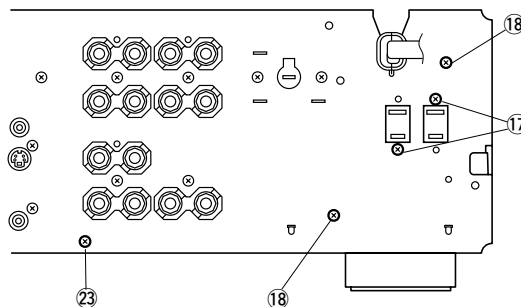

Fig. 7
- Remove the Input (4) P.C.B, Operation (5)/(3)/(2) P.C.B. and Input (1)/(2) P.C.B.
- Remove 6 screws (17, 18 and 19) and then remove the Main (5)/Power (1) P.C.B. in Fig. 7 and 8.
- Remove 4 screws (21, 22 and 23) and then remove the Main Chassis in Fig. 7 and 8.